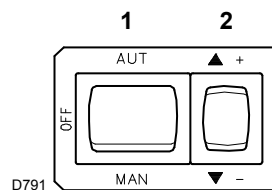
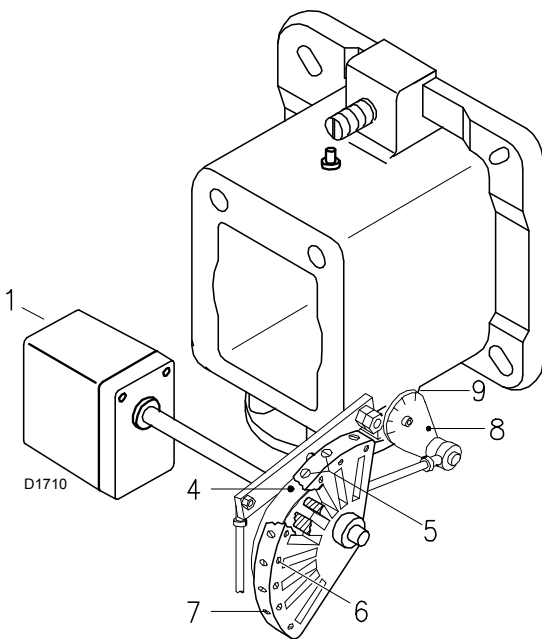
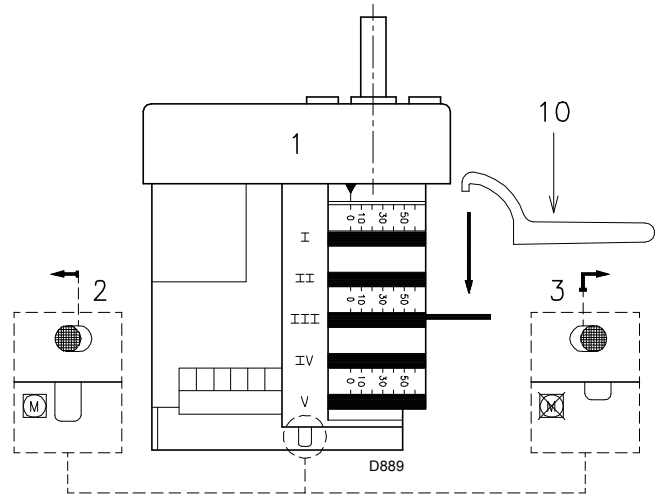

Fig. 39
Fig. 40
Fig. 41
Close the control devices and set switch 1)(Fig. 39) to "MAN".
In the above instructions we left the burner running in MIN. output operation. Now press button 2)(Fig. 39) "increase output" and keep it pressed until the servomotor has opened the air gate valve and the gas butterfly valve.
Progressively adjust the end profile of cam 4)(Fig. 40) by turning the screws 7).
Press button 2)(Fig. 39 at page 29) "output reduction" until the servomotor has closed the air gate valve and the gas butterfly valve to 30° (factory set adjustment).
- If this value is to be reduced, decrease the angle of cam III (Fig. 41) slightly by proceeding a little at a time until the angle is changed from 30° to 28° - 26°....
- If it has to be increased press the button "output increase" 2)(Fig. 39 at page 29) (i.e. open the gas butterfly valve by 10-15°), increase the cam III angle (Fig. 41) with small successive movements, i.e. take it from angle 30° to 32° - 34°... Then press the button "output decrease" until the servomotor is taken to the minimum opening position and measure the gas delivery.
- In order to adjust cam III, especially for fine movements, the key 10)(Fig. 41), held by a magnet under the servomotor, can be used.
Progressively adjust the starting profile of cam 4)(Fig. 40) by turning the screws 5).
Key Fig. 40
Press the key 2)(Fig. 39 at page 29) "output increase" a little so that the servomotor turns by about 15°.
- Switch off the burner using switch 1)(Fig. 39 at page 29), at OFF position;
- disengage the cam 4)(Fig. 40) from the servomotor, by pressing the button 3)(Fig. 41);
- Engage the cam 4) to the servomotor again by moving the button 2)(Fig. 41) to the left.
- Finally fix the adjustment by turning the screws 6)(Fig. 40).